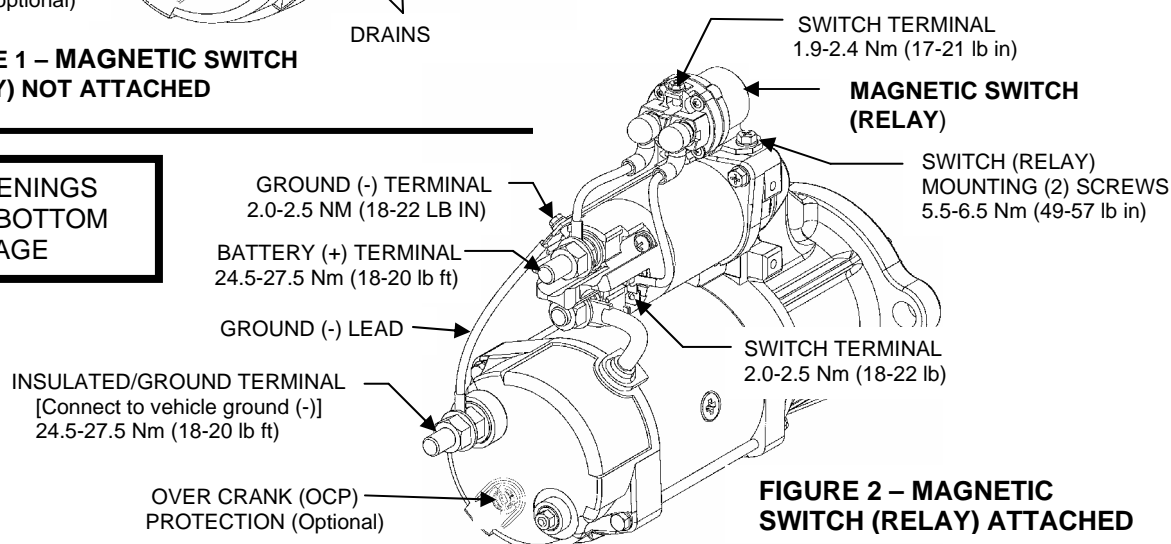

FIGURE 2 – MAGNETIC SWITCH (RELAY) ATTACHED
REPOSITIONING INTEGRATED MAGNETIC SWITCH (IMS) (Figure 2, page 2)
- ◆ **Reinstall mounting screws and torque all fasteners according to values labeled in figure 2, page 2.**